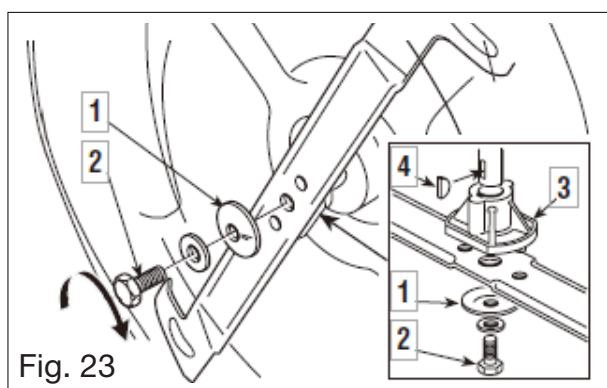

Fig. 23
1. When refitting the blade, always follow the indicated sequence, making sure that the blade's wings are facing towards the interior of the cutting deck and that the concave part of the cup spring (Fig. 23/1) is pressing against the blade.
2. Tighten the fixing screw (Fig. 23/2) using a torque wrench set to 40-45 N.m.
3. If the shaft hub (Fig. 23/3) came off when dismantling the blade, make sure that the key (Fig. 23/4) is firmly in its right position.